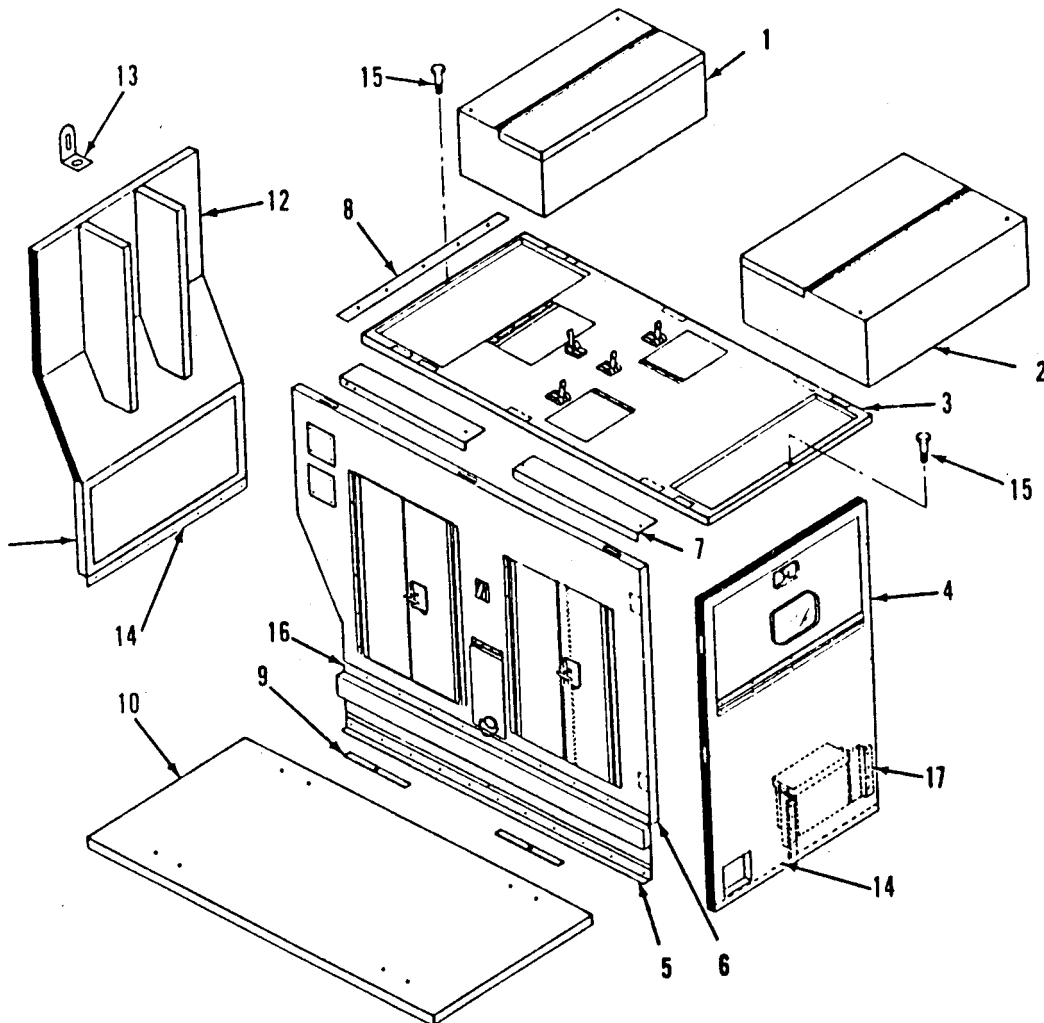

Figure 4-16. Acoustic Suppression Kit Major Components
(9) Raise side panel skirt 90° and remove from side panel assembly. Remove screws, capscrews, washers, keepers, and remove upper side panel skirt. (Refer to figure 4-16.) Attach lifting sling, and carefully raise and position side panel assembly on mounting member.
(10) Install three rubber washers, three flatwashers, and three locking nuts in bottom of side panel. Ensure rubber flaps are flat against radiator, and are pointed forward. Remove plastic plug and feed oil drain hose through side panel hole.
(11) Remove lifting sling from side panel.
(12) Repeat steps (9) thru (11) to install other side panel.
(13) Position front lower panel assembly on generator set. Ensure top rubber flap is in raised position on radiator shell lip. Remove plastic plugs from rotolock holes. Align male and female rotolocks and, using hex tool, turn rotolocks to secure the front lower panel assembly. (Refer to figure 4-16.) Install plastic plugs. Ensure mounting zee is below bottom tray assembly.
(14) Attach lifting strap, and raise front top panel assembly into position on side panels. Ensure alignment pins fit in holes for proper alignment. Remove plastic plugs from rotolock holes. Align male and female rotolocks and, using hex tool, turn rotolock to secure the front upper panel assembly (Refer to figure 4-16). Remove lifting strap. Install plastic plugs.
(15) Position exhaust extension on engine exhaust. Install and tighten clamp to secure the exhaust extension. Exhaust extension opening must be pointed toward baffle in front upper panel assembly, and must not interfere with other components later.
(16) Attach lifting strap and position rear panel assembly on generator set. Ensure alignment pins are in holes for proper alignment. Remove plastic plugs from rotolock holes. Align male and female rotolocks and, using hex tool, turn rotolocks to secure the rear panel assembly (Refer to figure 4-16). Remove lifting strap. Install plastic plugs. Ensure mounting zee is below bottom tray assembly.
(17) Attach lifting sling to roof panel assembly, and position on generator set. Ensure alignment pins are in holes. It may be necessary to use C-clamps to pull the side panels into position using the lifting clevis as an anchor for the C-clamp. Remove plastic plugs from rotolock holes. Align male and female rotolocks and, using hex tool, turn rotolocks to secure the roof panel assembly (Refer to figure 4-16). Remove the lifting sling. Install plastic plugs. Install two sockethead capscrews to secure roof panel assembly.
(18) Raise sealing angle until it contacts roof, and tighten mounting hardware.
(19) Tighten capscrews securing mounting members.
(20) Attach lifting sling to inlet turn assembly, and position on roof assembly. Remove the lifting sling. Remove plastic plugs from rotolock holes. Align male and female rotolocks and, using hex tool, turn rotolocks to secure the inlet turn assembly. (Refer to figure 4-16.) Install plastic plugs.
(21) Attach lifting sling to discharge turn assembly, and position on roof assembly. Remove plastic plugs from rotolock holes. Remove lifting sling. Align male and female rotolocks and, using hex tool, turn rotolocks to secure the discharge turn assembly. (Refer to figure 4-16.) Install plastic plugs.
(22) Position upper side panel skirt on side panel and install screws, washers, keepers, and capscrews.